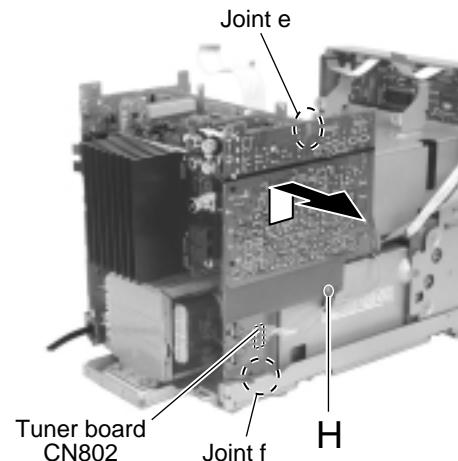

Fig.13
■Removing the tuner board (See Fig.13)